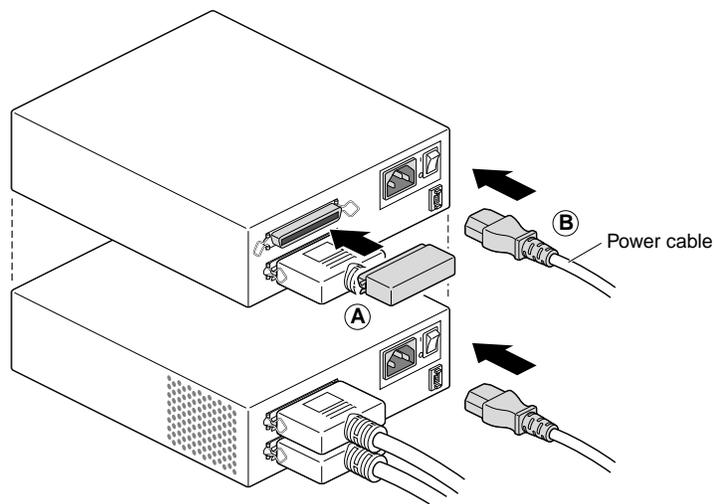

Figure 6-8 Connecting the Terminator and Power Cable to an External Device
2. Connect the terminator to the last device in the daisy chain (see A in Figure 6-8).